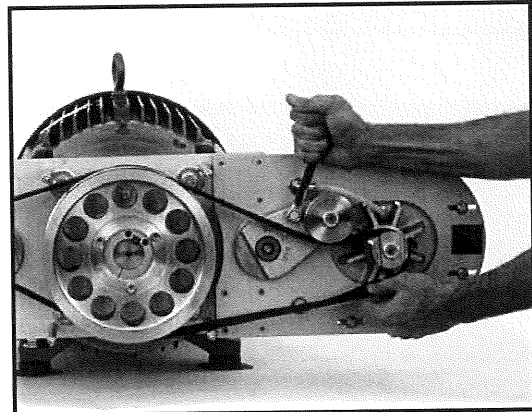
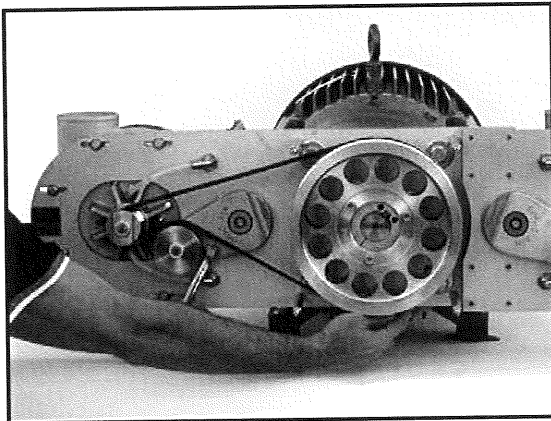

Figure 9 - Install Belt
Figure 7 - Install Belt
2. Using the 9/16 inch box-end wrench, rotate the belt tensioner arm counter clockwise (CCW). At the same time wrap the belt around the blower pulley, then along the right side of the idler pulley, and finally around the motor pulley. (See Figure 7 & Figure 9)